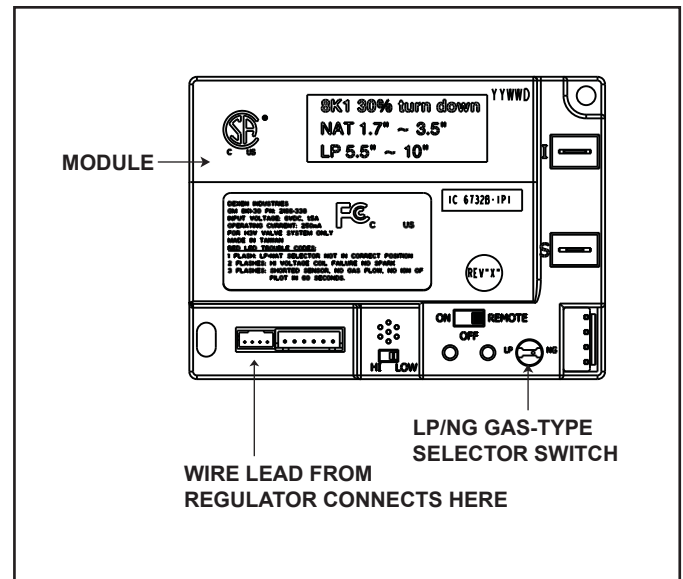

Figure 4. Control Module
9. Using a small screwdriver, carefully adjust the setting on the module to the appropriate gas type. Turn clockwise for LP. Turn counterclockwise for NG. Turn carefully. Excessive force may cause stripping or damage to module. See Figure 4.
1. The control module has an ON/OFF/REMOTE selector switch that must be set. See Figure 4.
2. If using a wired wall switch with the module in REMOTE mode, the flame output can be adjusted with the HI/LO selector switch on the module. See Figure 4. Note that the flame HI/LO selector switch will become inactive once an optional remote control (RC200/RC300) is programmed to the control module. Note that the control module will always ignite the fireplace on HI and remain so for the initial 10 seconds of operation. If the HI/LO is switched to the LO position, the flame output will automatically drop to the lowest setting after the flame has been established for 10 sec. After this 10 second period, the flame can be adjusted from HI to LO with the switch.